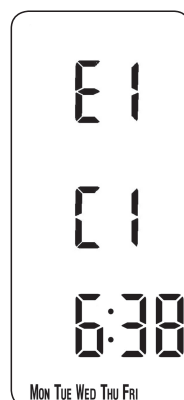

Fig. 23
- Press the **PROG** button, the first preset time. (Event 1 for Programme A) appears in display (**Fig. 23**).